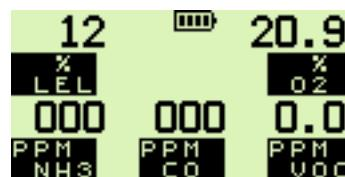

Fig. 3.10 Check Fault
- 3) If a “ZERO FAULT” flag and a flashing spanner symbol appear, alternating with an LEL gas value as shown in Fig. 3.10, leave instrument on for 30 to 60 minutes then switch instrument Off and On again. If fault remains, return instrument to an approved Service / Repair facility.